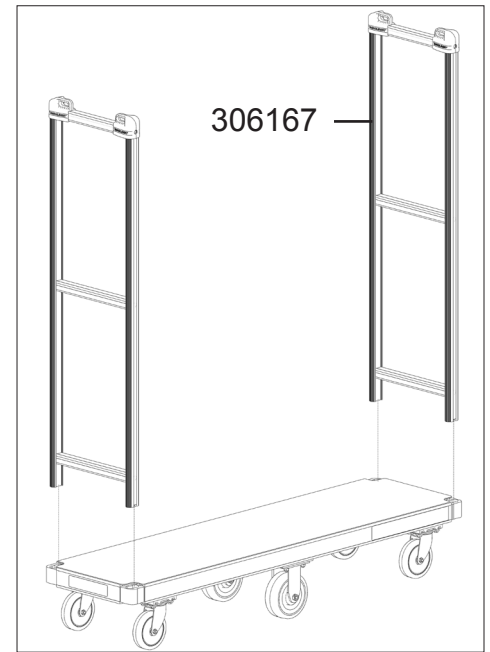

Figure 2
3. Position the handle as shown in Figure 2 and insert it into the sockets of the deck.